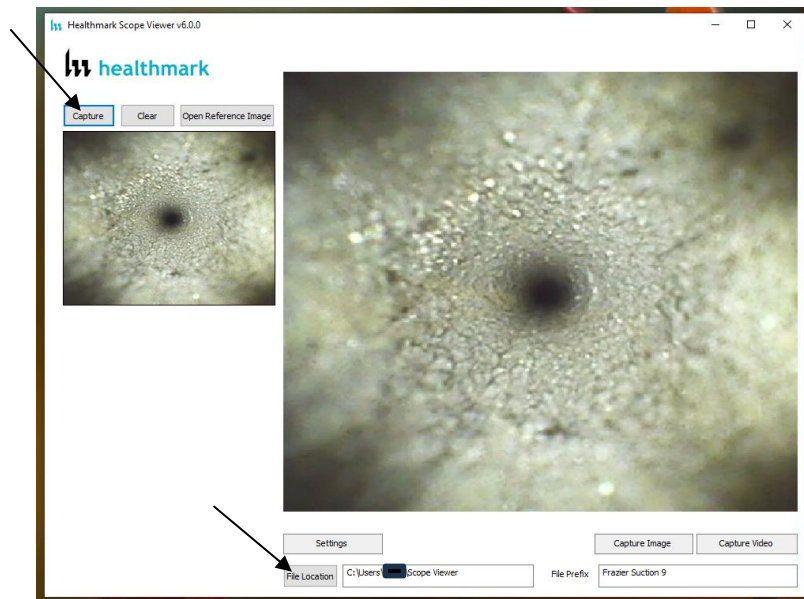

Figure 16
1. To display an image currently being displayed in the *Main Image Window*, click the *Capture* button. (*Note: The images will be saved in a file folder titled **Reference Images** in the designated File Location specified in the File Location field.*) (**Fig. 16**).
- a. Click the *Open Reference Image* button (**Fig. 16 above**).